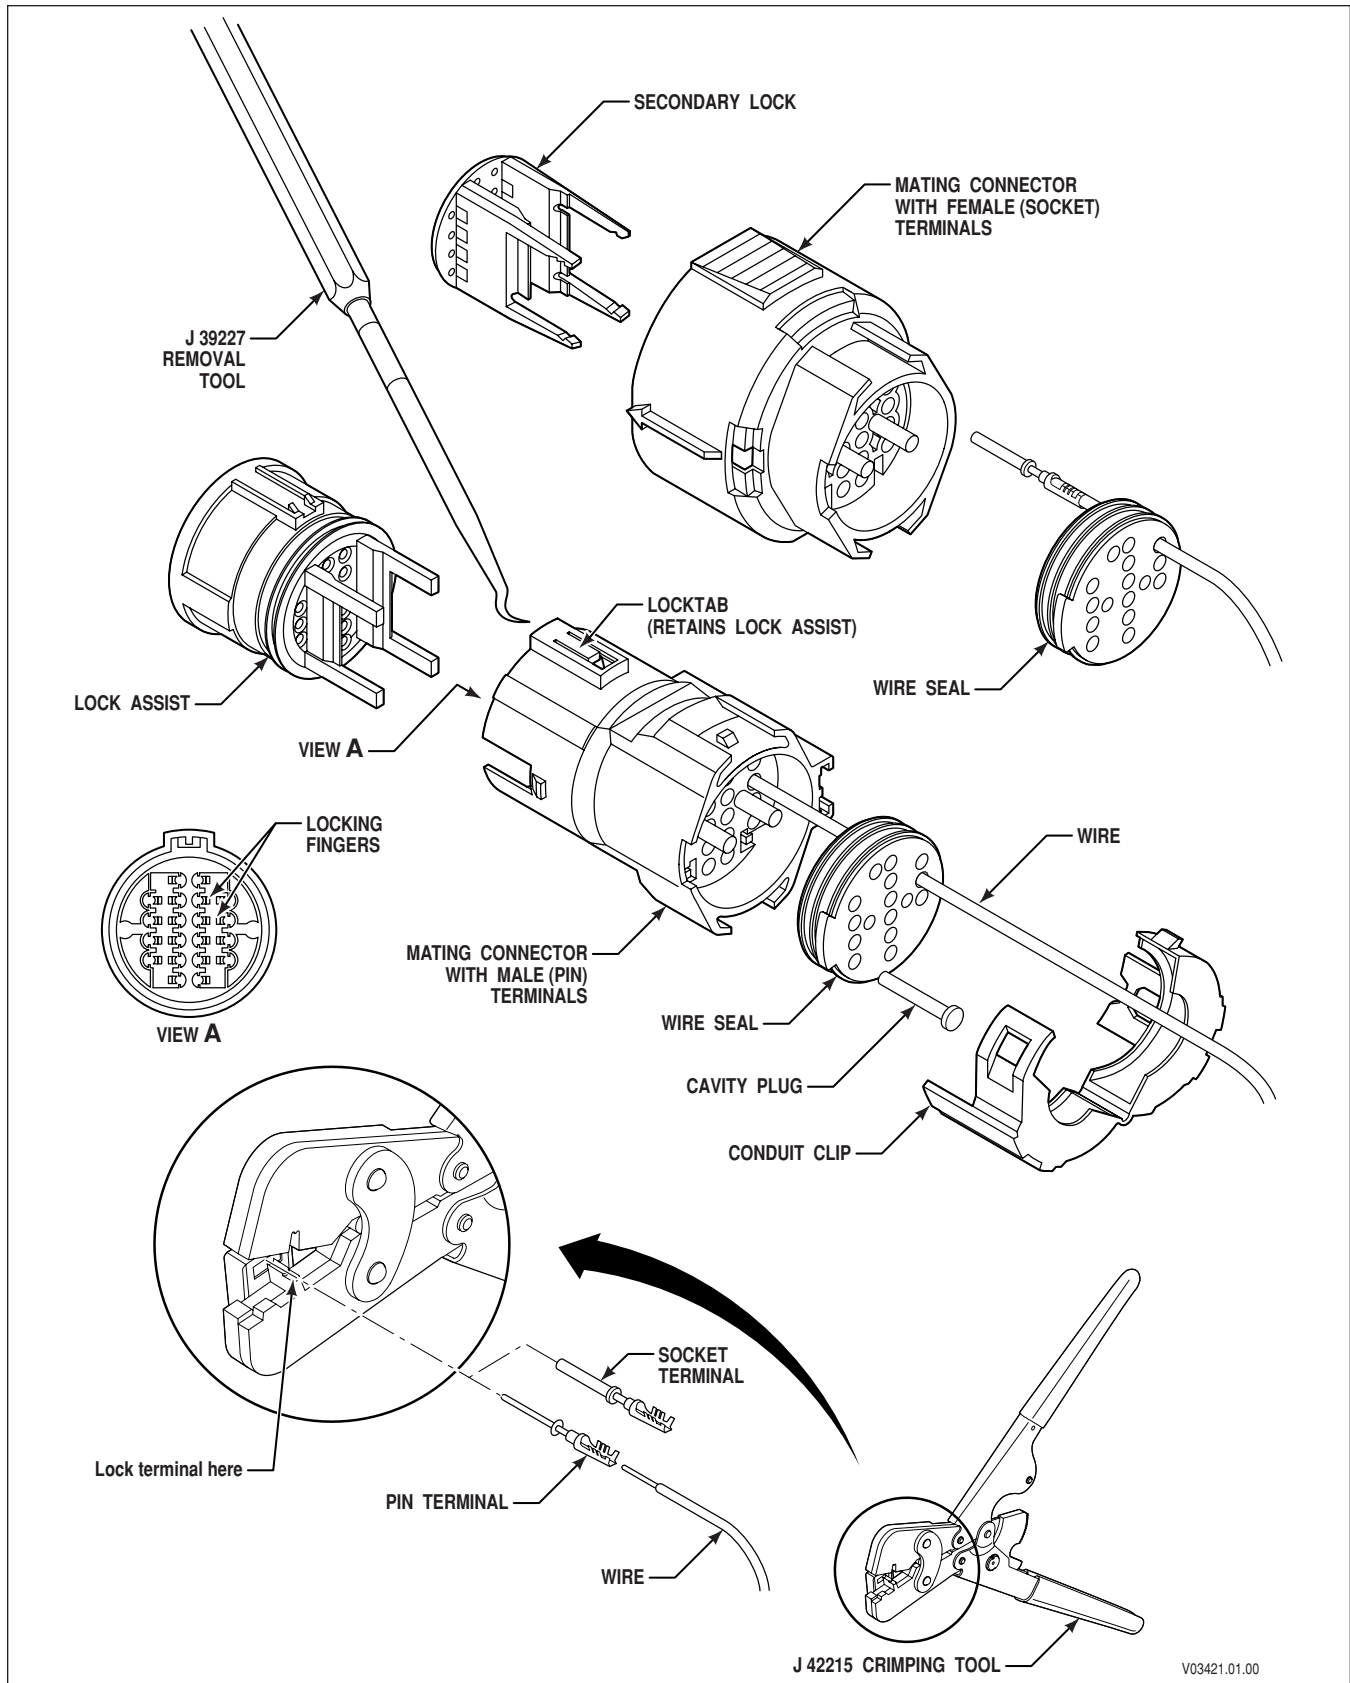

Figure E-1B. Delphi-Packard Micro Pack Connector (VIWV, VIWS, Shift Selector)
- #### 2. VIWV and VIWS Harness Connectors and Shift Selector (Device) Connectors (*Figure E-1B*)
- #### 3. VIWV and VIWS (Device) Connectors and Shift Selector Harness Connectors (*Figure E-1B*)
4. Complete terminal installation for VIW and Shift Selector Connectors as follows: (*Figure E-1B*)